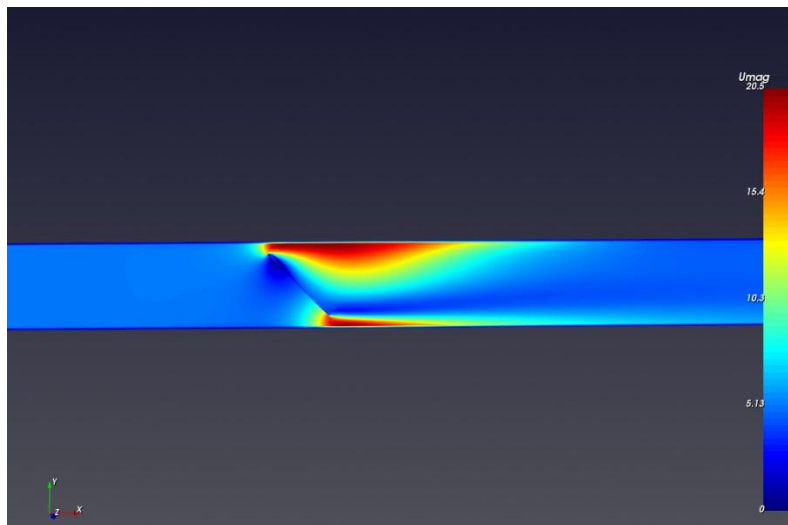

Figure 75. Velocity magnitude contour on the XY plane.
Create a default plane (XY) in **Post entities** panel and visualize Velocity magnitude ( $|U|$ ) (Figure 75).